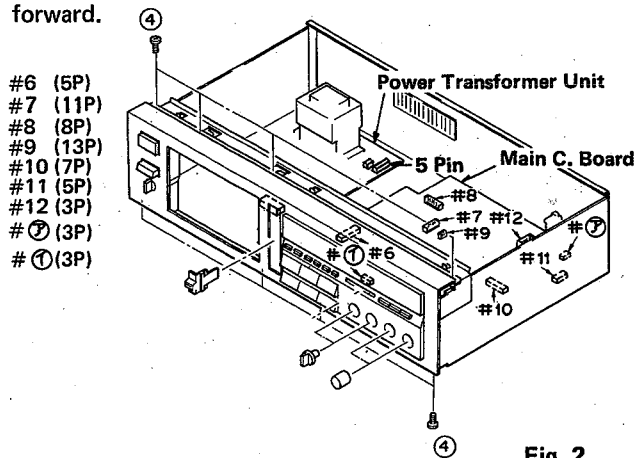

Fig. 2
- b. Remove 5 knobs in Fig. 2.
- c. Detach 9 connectors (#6 ~ #12, ⑦, ①).
- e. Remove 8 screws (④) in Fig. 2 and pull the front panel forward.